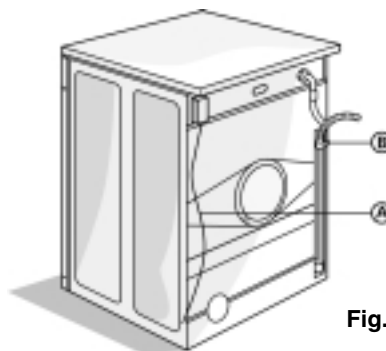

Fig.1
1. Unhook the drain hose from the left clip; see arrow A in Fig. 1.
Do NOT loosen the drain hose connection; see arrow B in Fig. 1, otherwise there is the risk of leakage (danger of scalding with hot water).
2. Fit the drain hose either to the siphon or hook it over the edge of a sink or bath tub with the "U" bend (Fig. 1). Small hand basins are not suitable.